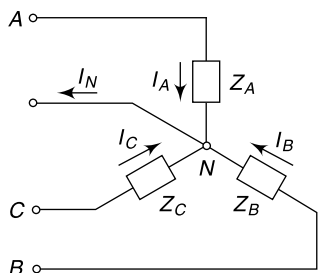

Fig. 7.18 Circuit of Ex. 7.21
Referring to Fig. 7.18
7.23 Figure 7.18 shows a three-phase load connected in star. Here $I_A = 20\angle100^\circ$ A and $I_B = 10\angle-50^\circ$ A. Find the voltage drops across the three impedances of Z_A , Z_B and Z_C where $Z_A = 6\angle0^\circ$, $Z_B = 6\angle30^\circ$ and $Z_C = 5\angle45^\circ$. Assume phasor sum of I_A , I_B and I_C as zero.